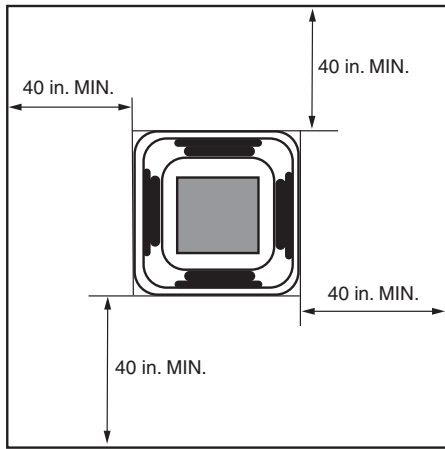

Fig. 4 — Distance from Wall or Obstruction
- The unit should be at least 40 in. from a wall or similar obstruction. See Fig. 4.